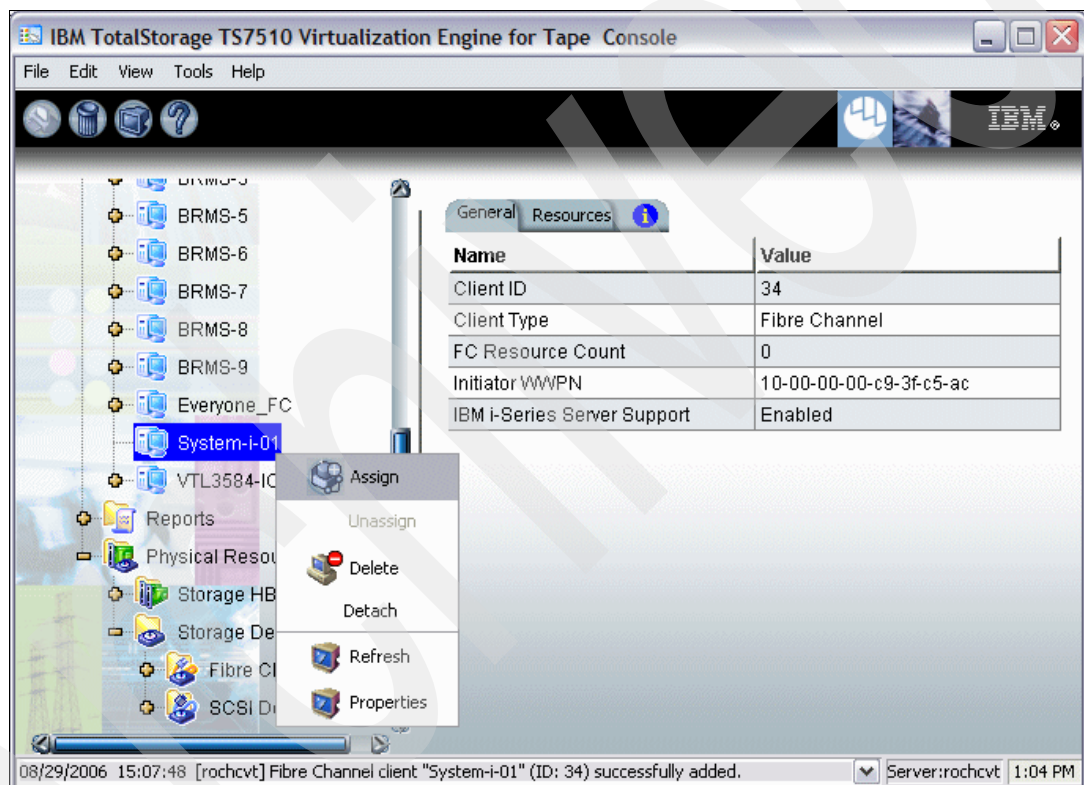

Figure 5-49 Selecting Assign to assign a SAN host to a virtual library
1. Right-click the **host** icon and select **Assign**, as shown in Figure 5-49.